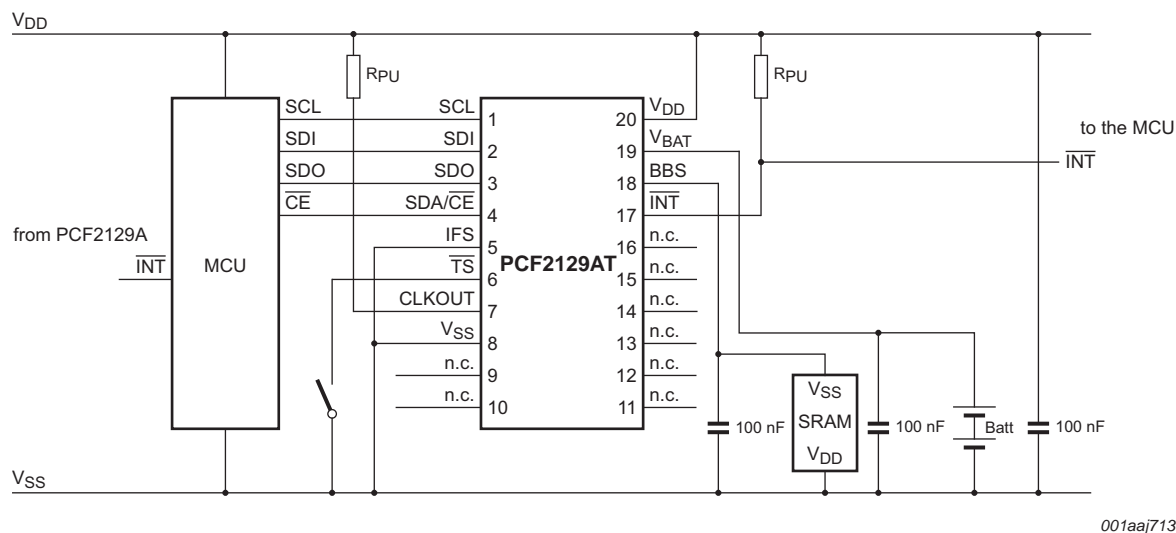
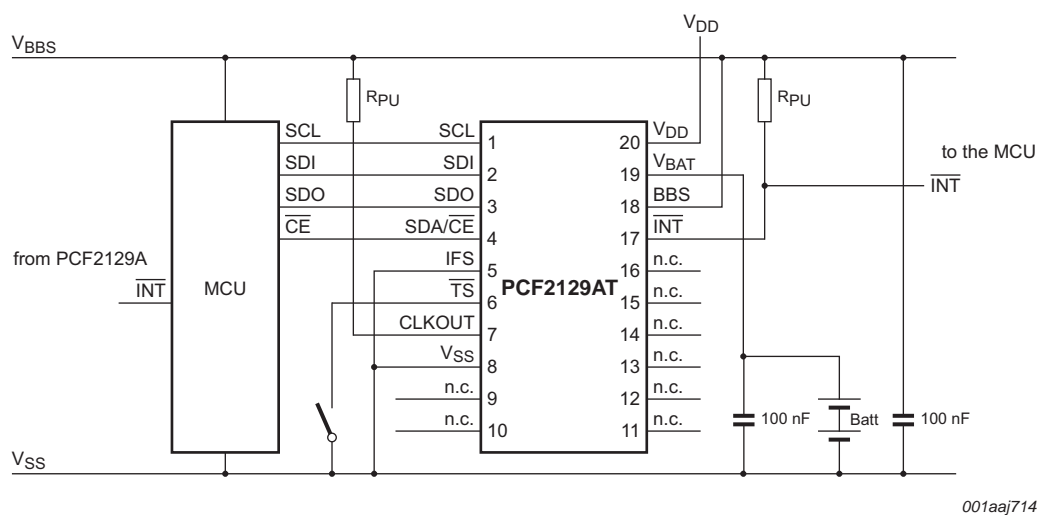

Fig 19. Application diagram: timekeeping, CLKOUT, power management, timestamp with the interface active
Fig 20. Application diagram: BBS supplies the microcontroller
PCF2129AT used for timekeeping, power management, CLKOUT and timestamp functions (see Figure 19):
- BBS supplies an external device, e.g. SRAM (see Figure 19) or a microcontroller (see Figure 20)
| Fig 19. | Application diagram: timekeeping, CLKOUT, power management, timestamp with the interface active | 28 |
| Fig 20. | Application diagram: BBS supplies the microcontroller | 28 |